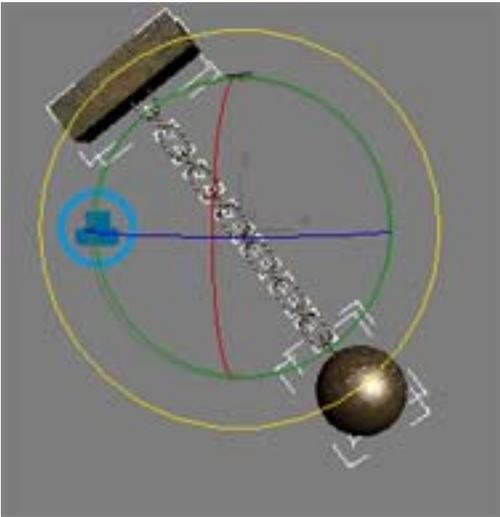

Figure 14. Wrecking ball in start position
Step 17. To give the wrecking ball potential energy and a good starting position rotate it about 35 degrees to the side. See Figure 14 below for example.